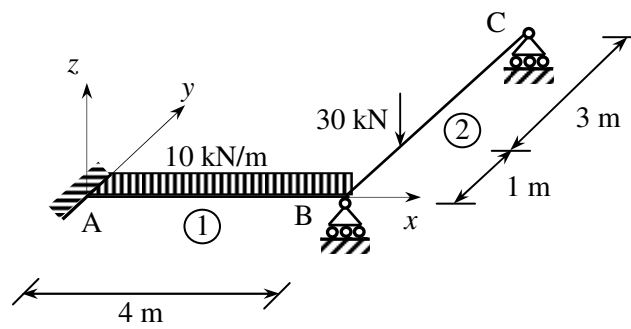

Figure 6
- Q.5** (a) Obtain the rearranged joint stiffness matrix and load vector for the grid shown in Figure 6. **06**